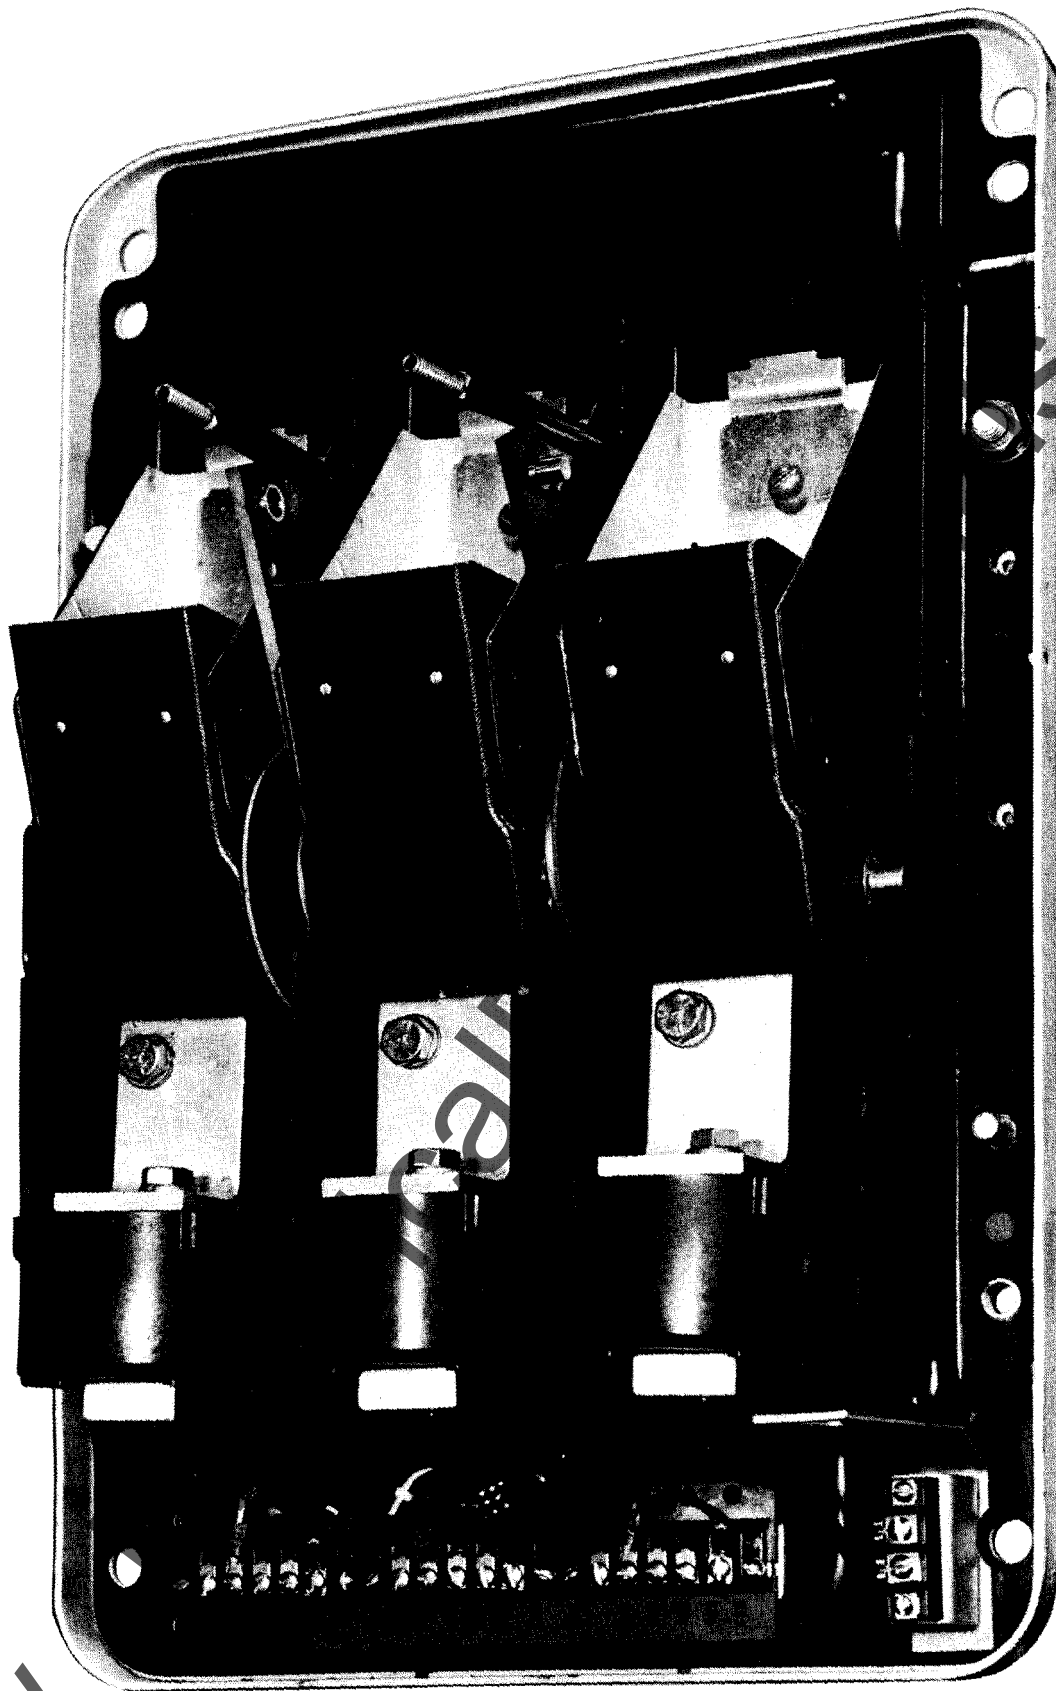
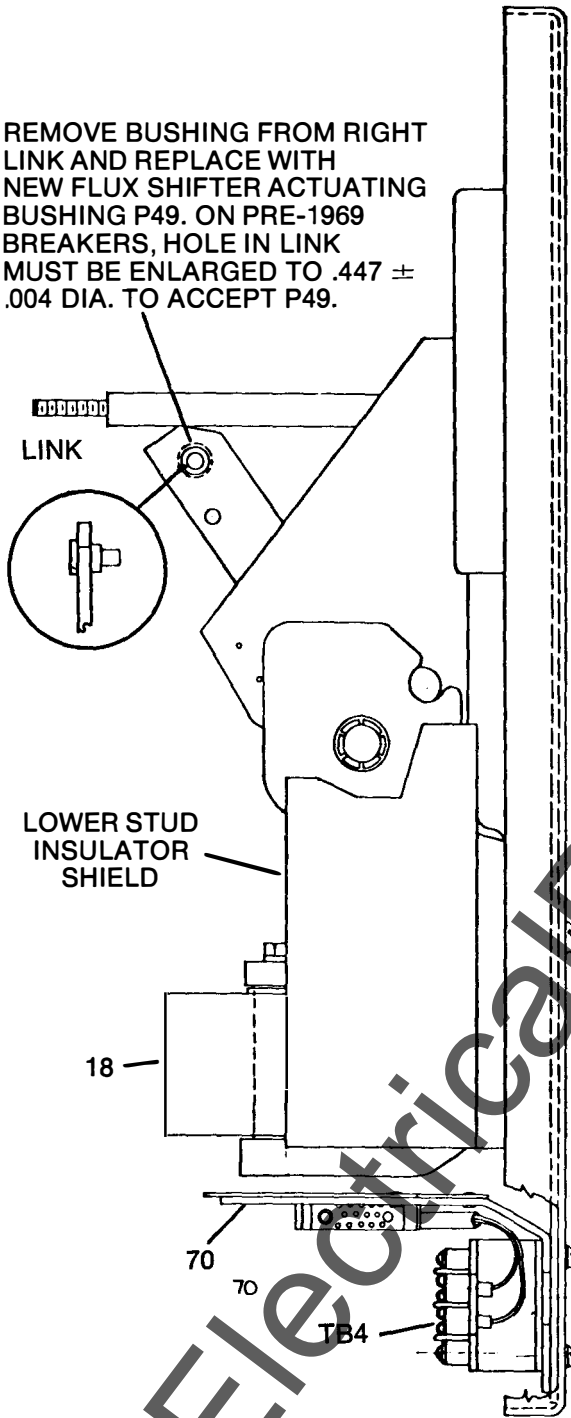

Fig. 4 — AK-25 back frame with SST conversion components installed and ready for reassembly to front frame.
Fig. 6 — Right side view of back frame
This step completes conversion of the back frame — see example illustrated in Fig. 4.
10. Reference Fig. 6, install flux shifter actuating bushing 49 in the right hand operating link; enlarge the link hole if necessary. See Fig. 4 also.
WHEN REASSEMBLING THE FRONT AND BACK FRAMES, ENGAGE BUSHING 49 (IN RH OPER. LINK) WITH OPERATING LEVER OF THE FLUX SHIFT TRIP DEVICE AS SHOWN. SEE FIGS. 4 & 5.